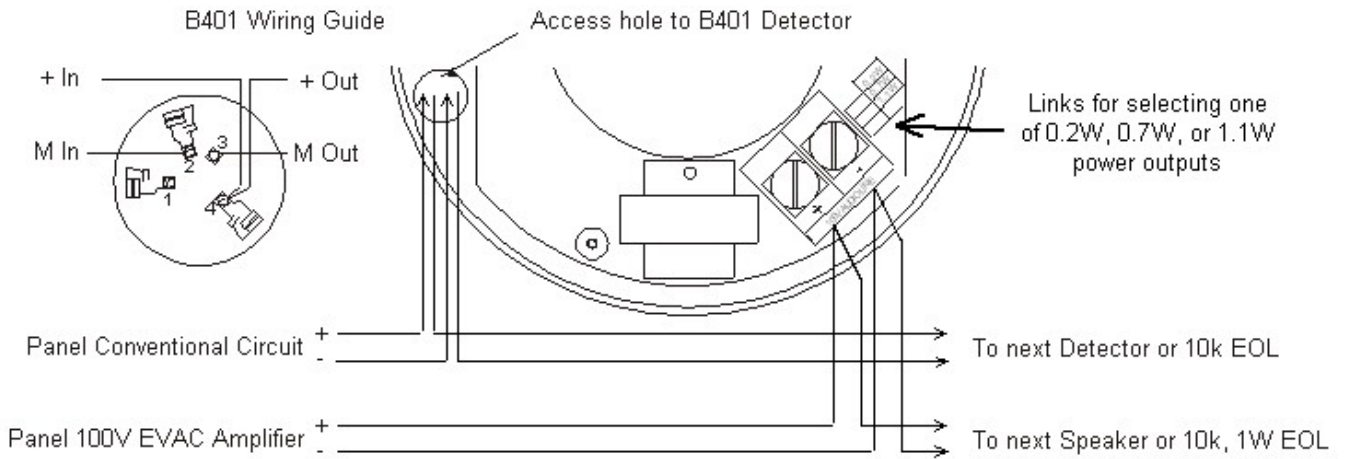

Figure 1
- ▶ The panel loop output and amplifier line output are connected to the **PSSB401** Speaker as shown in Figure 1.